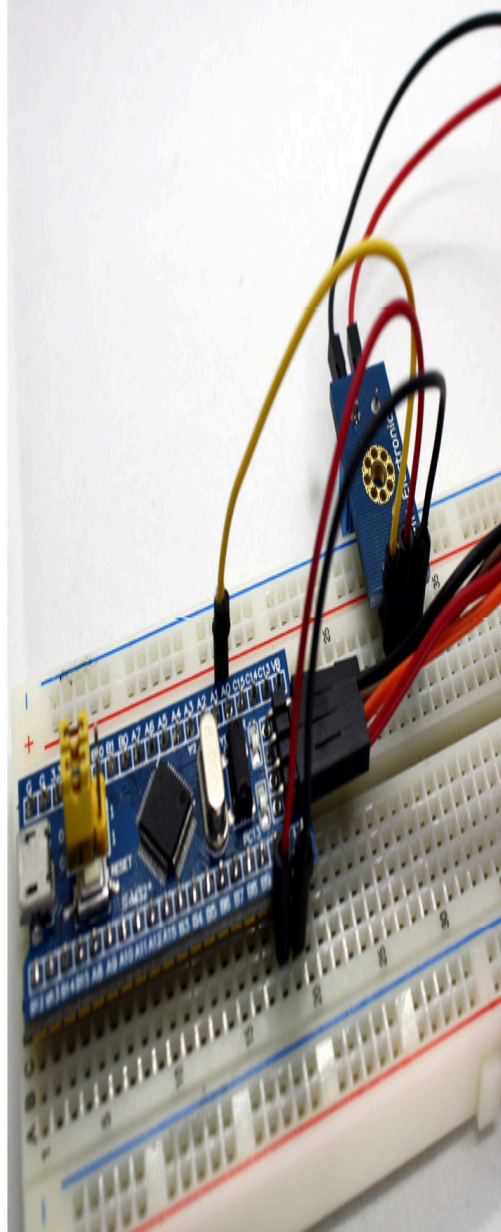

Figure 11.5 – Voltage sensor connection to the Blue Pill
3. Next, you need to connect the sensor analog output to an analog input on the STM32 Blue Pill card and connect the S of the sensor to pin **A0** of the Blue Pill, as shown in *Figure 11.5*: